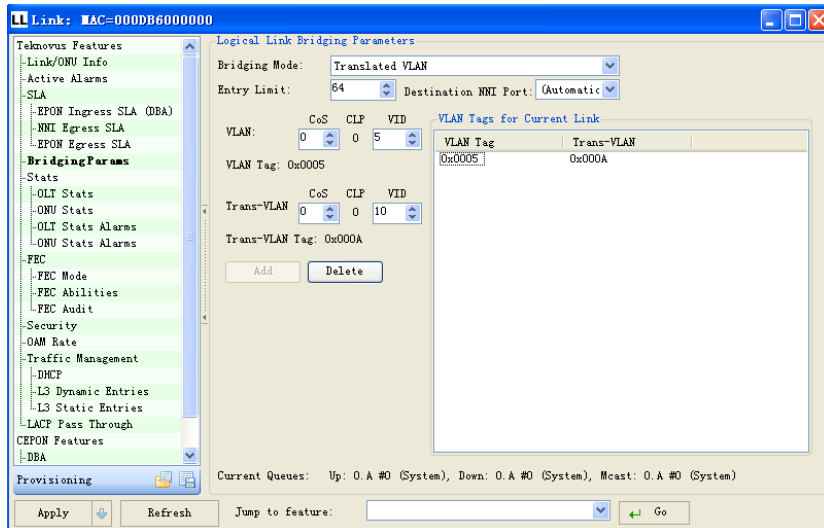

Figure 8-24 Add VID Value
3. In the VLAN and Trans-VLAN, set the VID values respectively. For example, in the VLAN, set the VID as 5 while setting the VID as 10 in the Trans-VLAN; click Add and then Apply shown in the Figure 8-24. (In the VLAN, set the VID as 5 while setting the VID as 10 in the Trans-VLAN; namely, send the flow (VID=10) in the uplink direction and the OLT port will receive the flow (VID=5); send the flow (VID=5) in the downlink direction and the ONU port will receive the flow (VID=10).